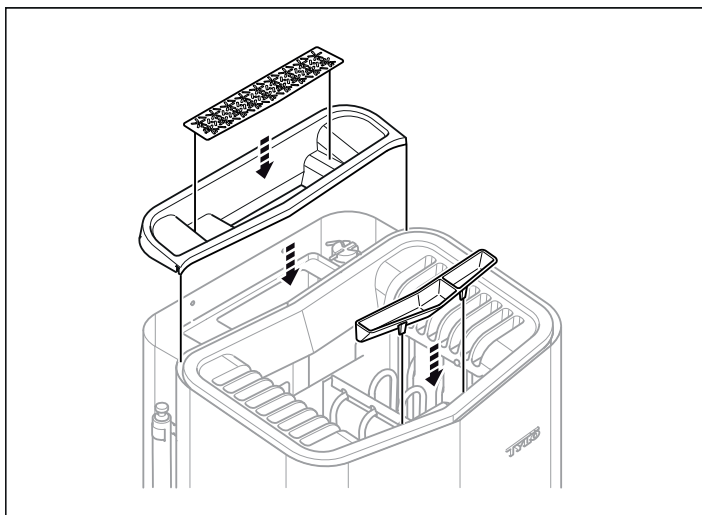

Fig 13: Fitting the cover for the water reservoir, herb grille and fragrance holder/air humidifier
11. Fit the cover for the water reservoir, herb grille and fragrance holder/air humidifier (see Figure 13).